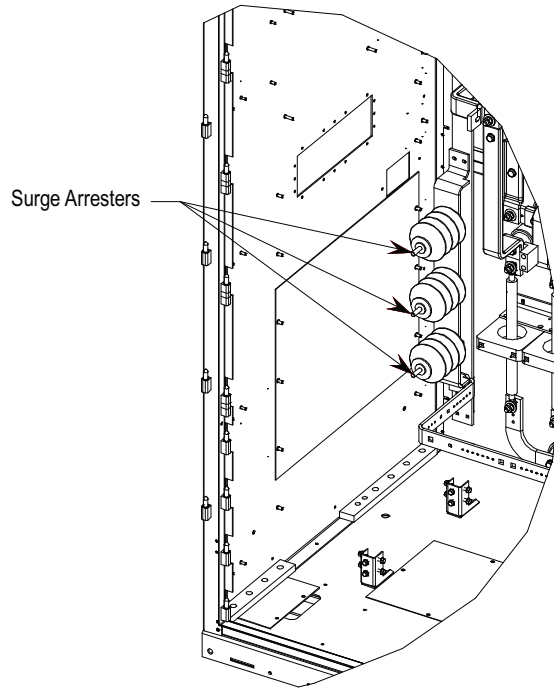

Figure 22 - Surge arresters (standard model)
6. Replace the ring lugs and 6.4-mm (¼ inch) hardware (see Figure 22).